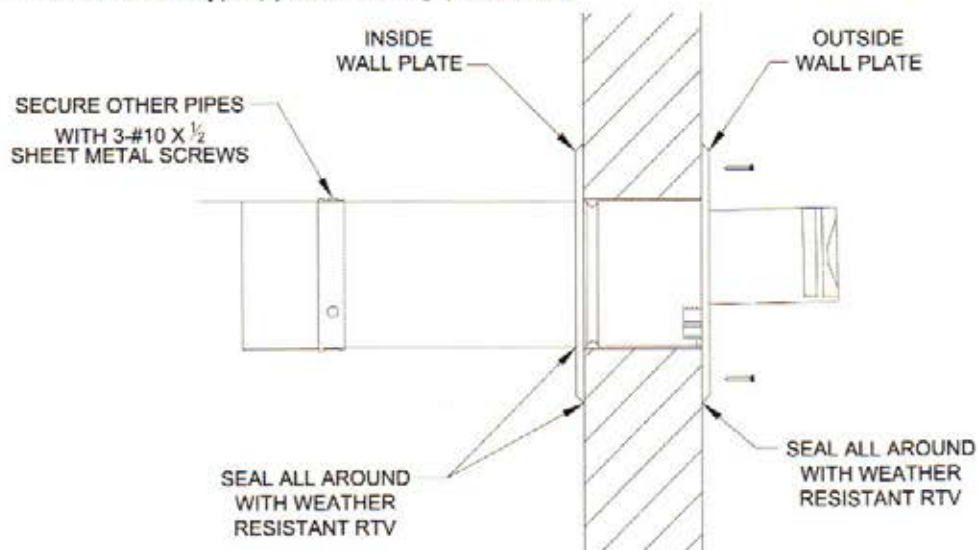

Figure 26: Completing Horizontal (Wall Terminal Installation)
- Install the supplied Inside Wall Plate onto the shortened Horizontal (Wall) Terminal interior end and move the plate to cover interior wall cut opening. Secure the plate with provided fasteners, then, apply the sealant around plate sides to seal it to interior wall (refer to Figure 26).